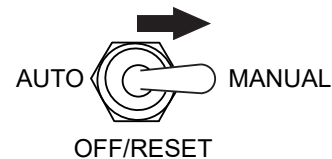

Figure 46. Auto Start/Stop Switch (Manual Position)
1. To start the engine, place the **Auto Start/Stop switch** in the **MANUAL** position (Figure 46).